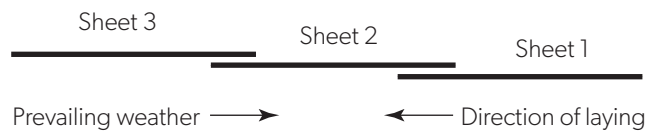

FIGURE 9.1.8:
2. Position the first clips on each support by placing onto the support nearest the roof edge. (Figure 9.1.8).